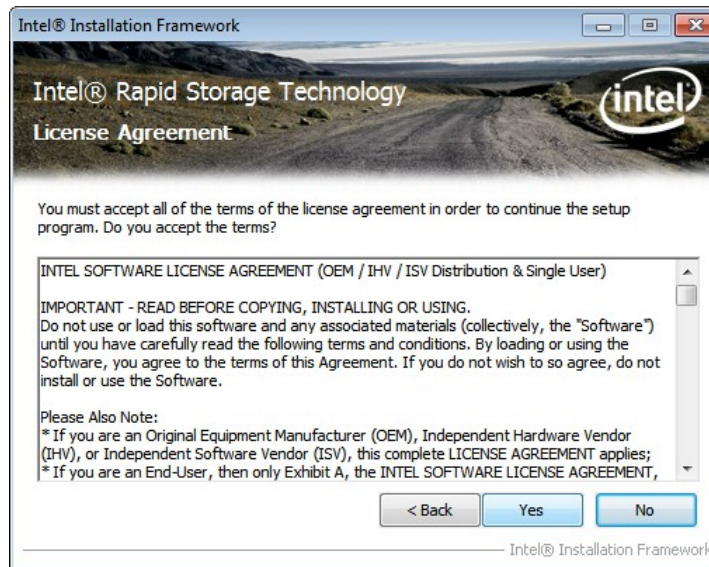

Figure 6-23: SATA RAID Driver License Agreement
Step 6: The license agreement in **Figure 6-23** appears.